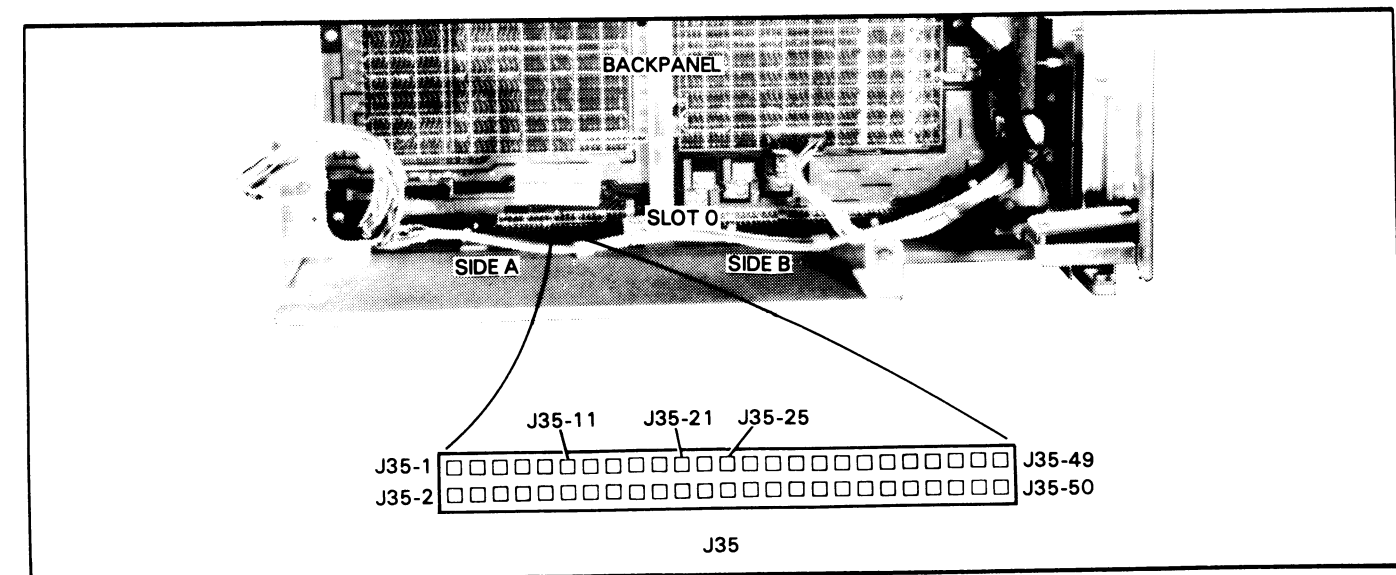

Figure 6.7 Jack 35
4. Short MEMD at J35-21 to GND at J35-1 (see Figure 6.7). Before continuing the checkout, make sure you have shorted the correct pins.
- Check the -11V voltage at J35-25 (see Figure 6.7).
- b. If the light is NOT on, check the ONLED-P voltage at J35-11 (see Figure 6.7).
2. Check the +12 MEM voltage at location J35-3 (see Figure 6.7).